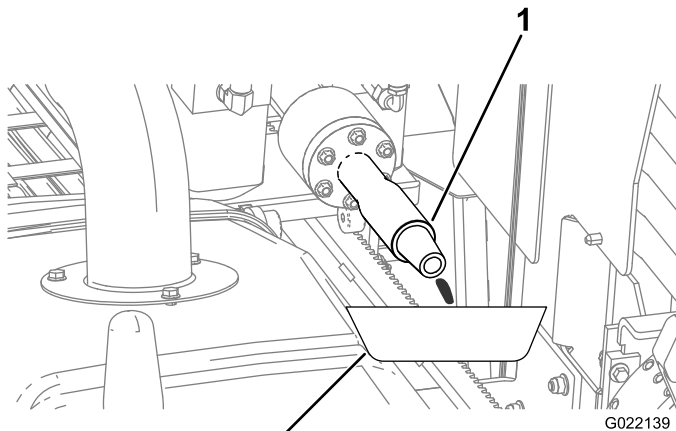

Figure 149
- B. Place a drain pan under the drill spindle for the leaked antifreeze (Figure 149).
- D. When the antifreeze comes out of the drill spindle (Figure 149), turn the pump off.